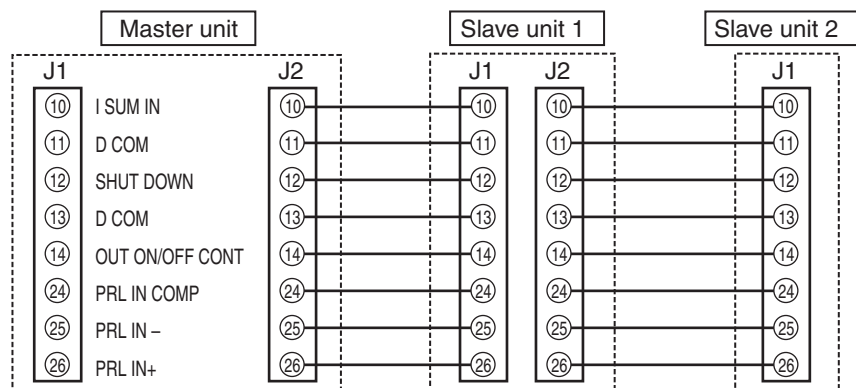
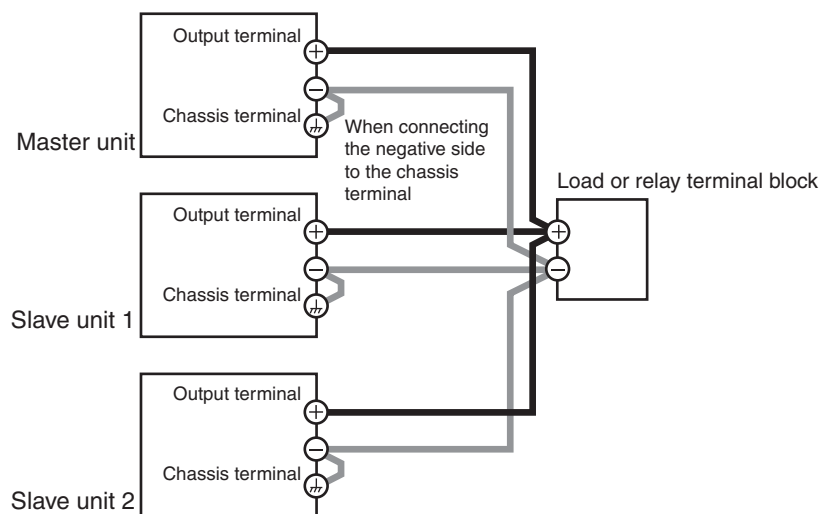

Fig.4-5 Connection for parallel operation (two slave units)
Fig.4-6 Load connection for parallel operation (two slave units)
Fig.4-5 and Fig.4-6 shows an example when connecting two slave units.
If you are using the J1/J2 connector kit that comes with the package, refer to Fig.4-5 to make the connection. For tools needed for the connection, see Table 3-1.
- 4 As shown in Fig.4-6, connect the load wires of the master and slave units to the load. If you use a relay terminal block, make sure that the